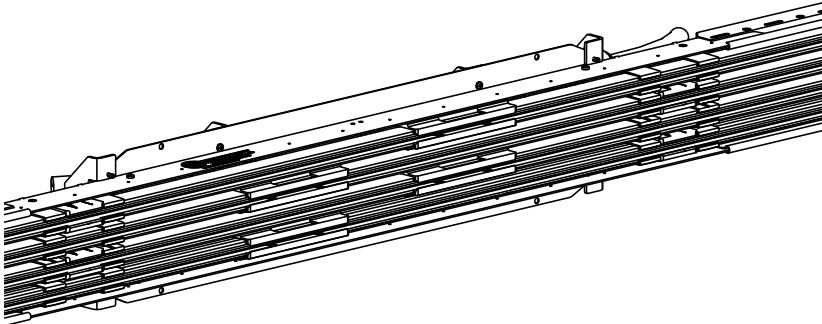
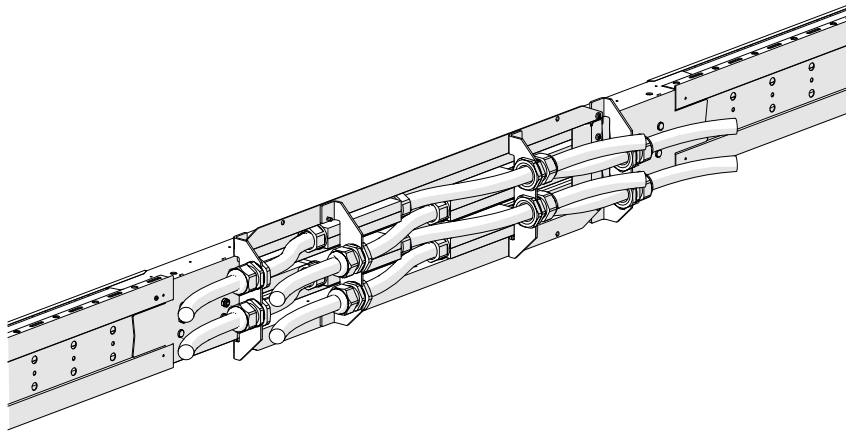

Fig. 53: Front view
Fig. 54: Rear view
8. Install all other conductor rail poles in the same way and remove the auxiliary consoles from the ProShell support profile (see Fig. 53 and Fig. 54).